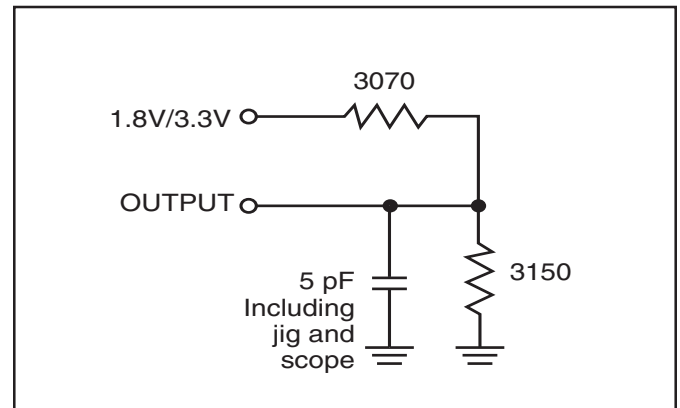

Figure 2
2. Tested with the load in Figure 2. Transition is measured ±500 mV from steady-state voltage. Not 100% tested.
3. Tested with the load in Figure 2. Transition is measured  $\pm 500$ mV from steady-state voltage. Not 100% tested.